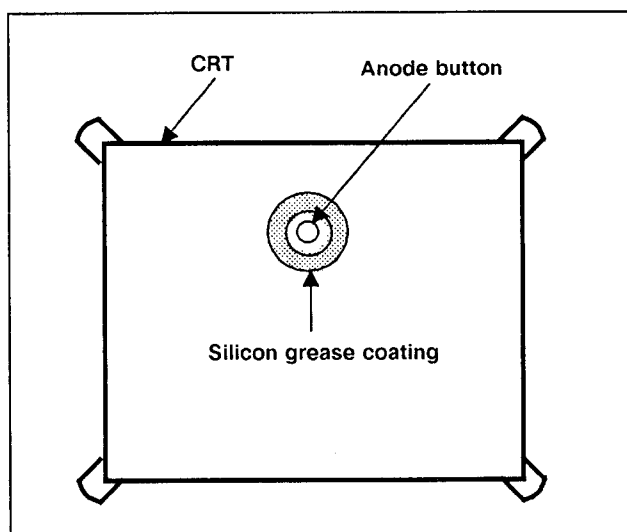

Fig. 7
- Subsequent to replacement of the CRT and HV transformer or repair of the anode cap, etc. by dismantling them, be sure to coat silicon grease for electrical insulation as shown in Fig. 7. Wipe around the anode button with clean and dry cloth. (Fig. 7)
(Fig. 7)
- 2] Temporarily select the PICTURE SERVICE, press the LEFT/RIGHT key and get the screen of Fig. 7.